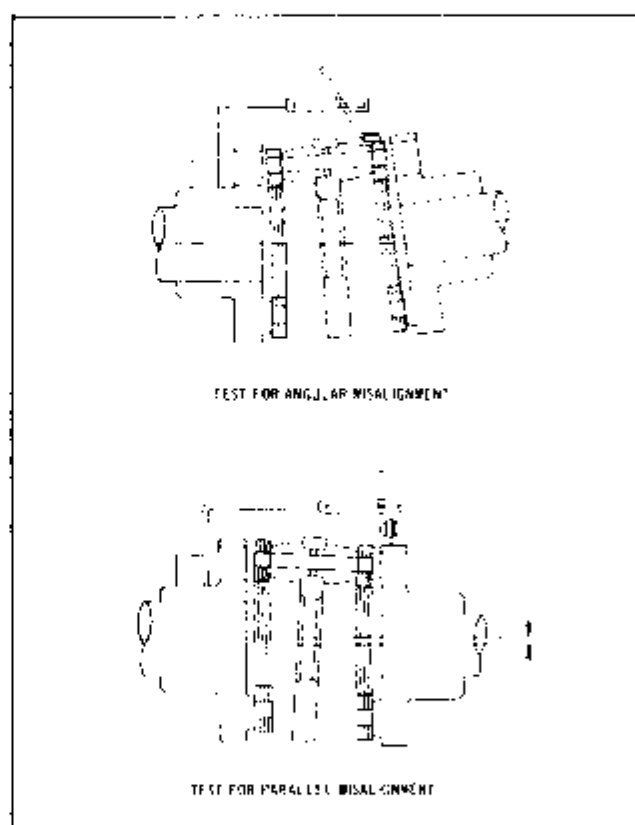

FIGURE 23A
2. Check parallel alignment by setting indicator on outer surface of flange (Figure 23A). Rotate motor noting the maximum and minimum indicator reading. Move motor as necessary to reduce indicator reading to a minimum. Care must be taken not to disturb setting in Step 1.
3. Check angular alignment with a dial indicator (Figure 23A). Mount indicator on compressor flange with stem on face of motor flange. Rotate motor by hand noting maximum and minimum indicator reading. Adjust motor as necessary to reduce total indicator reading to .002" or less for each inch of diameter at the indicator stem.